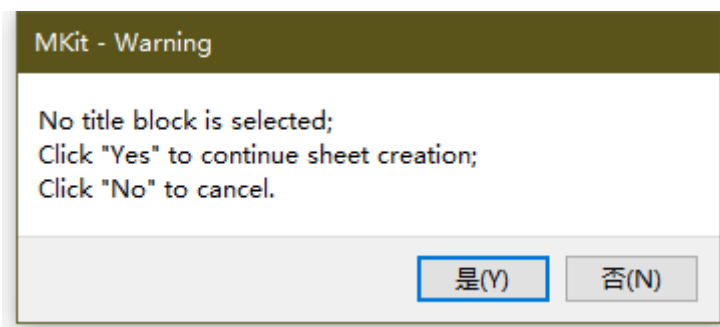

Figure 5.5 Prompt window
1. Click button to invoke function and select desired title block in window shown, if no title block is needed, click cancel button and a window displayed of prompt that asks whether to continue process (Figure 5.5);